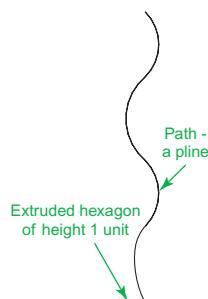

Fig. 18.6 Second example – **Extrude Faces** tool – pline for path
2. Change to the **ViewCube/Front** and construct the curved pline in Fig. 18.6.